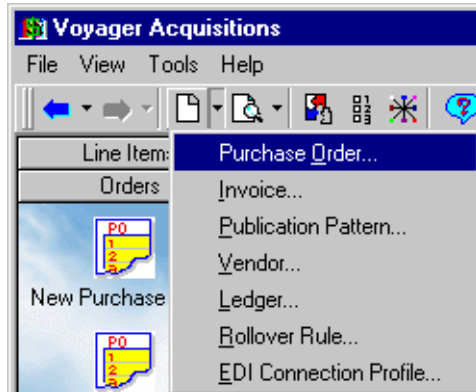

Figure 6-8. Accessing a new purchase order from the toolbar
- Click the down arrow beside the **New Item** button on the toolbar, then select **Purchase Order** from the drop-down list (see Figure 6-8).